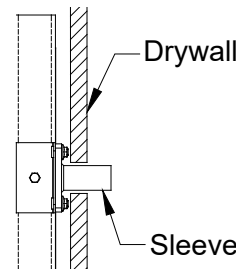

Fig. 6
6. Install drywall accordingly so that the sleeves protrude through the opening in the wall. See Fig. 6